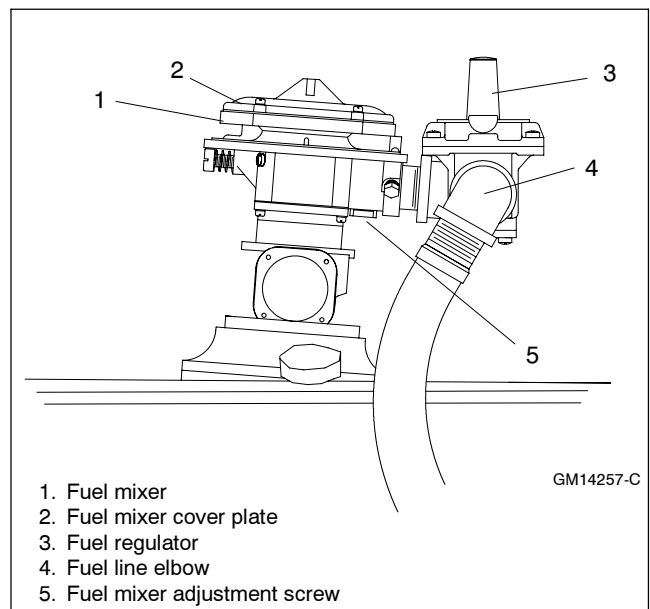
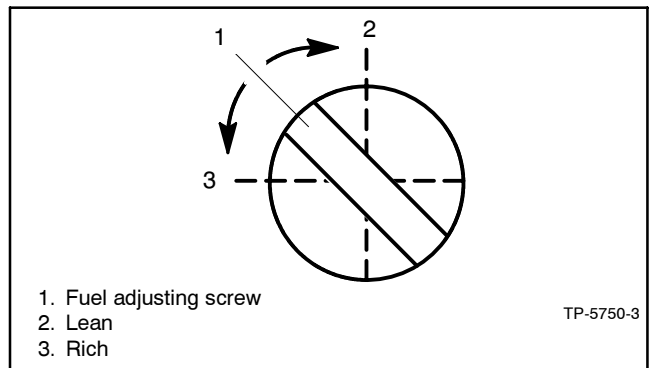

Figure 7-18 Fuel Mixer
Figure 7-23 Fuel Mixture Adjustment, Typical
- a. Remove the five gas mixer cover plate screws. See Figure 7-18. Be aware that there is a spring under the gas mixer diaphragm, that may cause the cover plate and mixer diaphragm to pop up when the screws are loosened and removed.
- b. See Figure 7-18 for location of the fuel mixture adjustment screw and adjust the fuel mixture screw (Figure 7-23) until the engine runs smoothly.